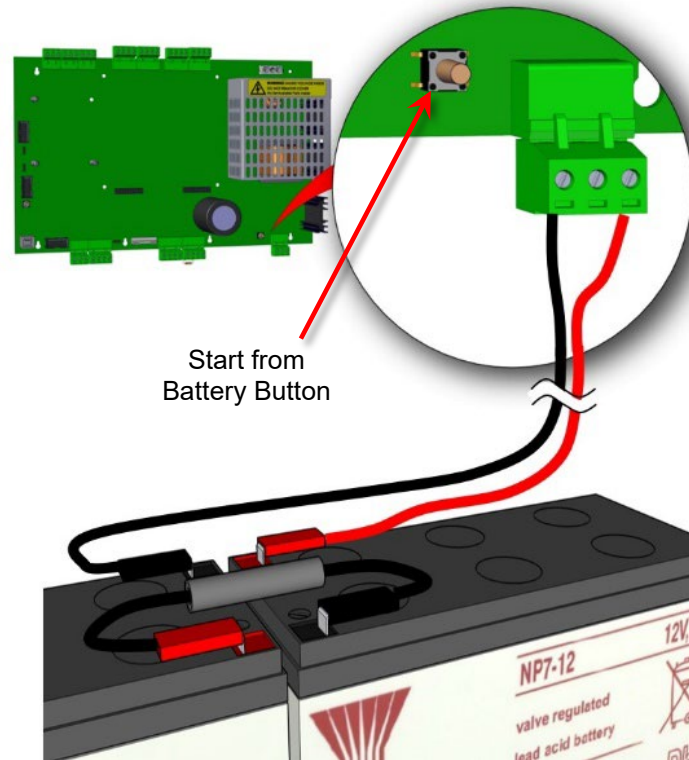

Figure 7 - Battery Connection
To wire batteries to the NX10-ACS base card, connect the two (2) supplied battery leads to the BAT+ (red battery lead) and BAT- (black battery lead) terminals of the NX10-ACS base card. Connect the red battery lead (BAT+) to the positive lead of one 12 VDC battery and connect the black battery lead (BAT-) to the negative lead of the second 12 VDC battery. Finally, connect the supplied battery link with 10A, 250V fuse from the negative lead of the first 12 VDC battery to the positive lead of the second 12 VDC battery. If a fully charged set of batteries are connected to the NX10-ACS base card, the panel can be powered without AC by pressing the Start from Battery Button (Figure 7).